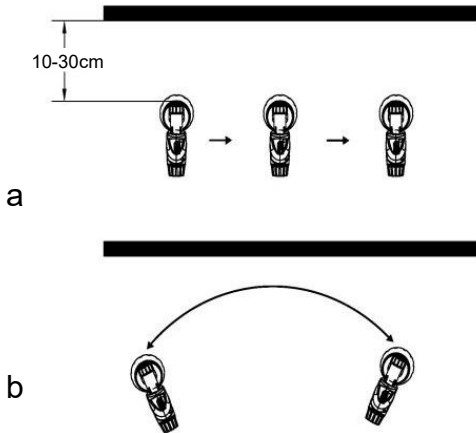

Fig 1
- **Correct (Fig. 1 a)** Be sure to hold the spray gun at an even distance of approx. 10- 30 cm to the target object.
- **Incorrect (Fig. 1 b)** · Heavy spray fog build-up, uneven surface quality.